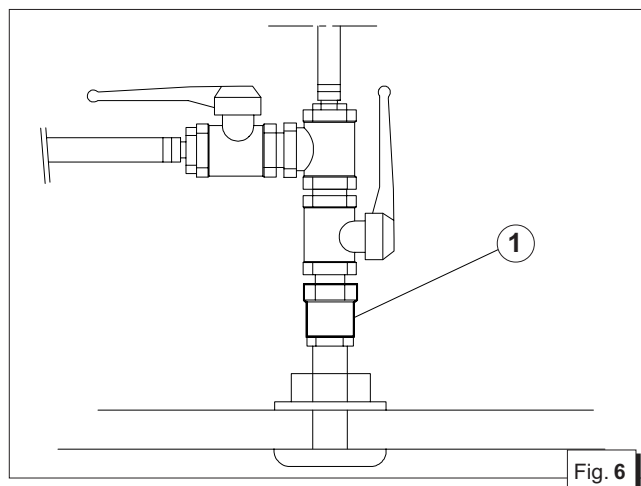

Fig. 6
If the unit is installed more than 1 metre above the water-line, a check valve should be fitted after the sea intake (fig. 6, ref. 1) to prevent the water circuit emptying when the motor is off. If this empties, the rotor of the water pump might be damaged during start up; for the same reason, when the unit is first started up, the suction tube from the valve to the pump should be filled manually.